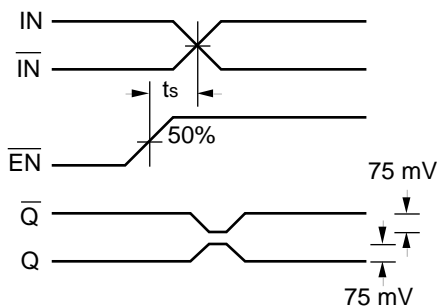

Figure 1. Set-up Time
- The set-up time is the minimum time that  $\overline{EN}$  must be asserted prior to the next transition of IN/ $\overline{IN}$  to prevent an output response greater than  $\pm 75\text{mV}$  to that IN/ $\overline{IN}$  transition (see Figure 1).